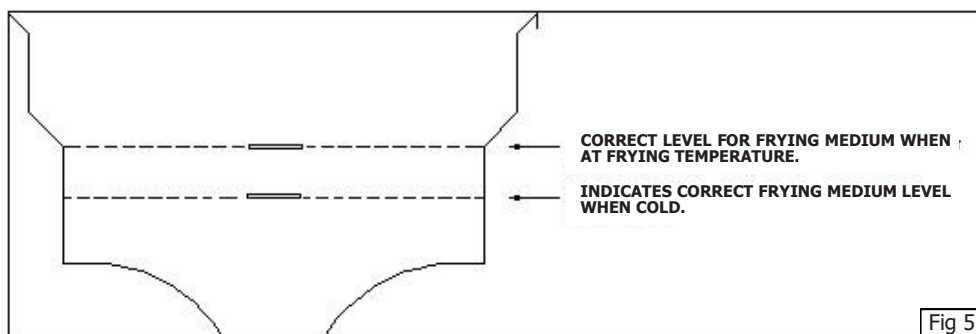

Fig 5
- To speed up this process, break up shortening and stir carefully during melting process. Add more shortening until tank is filled to the level marked on the tank side. Refer to Fig 5 above.